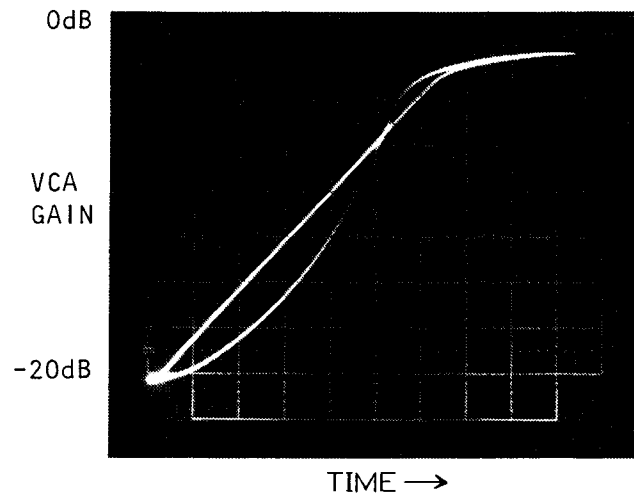

Fig. D-3: LIN and EXP Release Shapes
- d) Switch the RELEASE SHAPE switch to EXP. Restore the oscillator and verify that the G/R meter once again reads "20dB". Suppress the oscillator and superimpose the control voltage release shape upon the LIN shape measured in step (c) above. When superimposed, the two traces should look like Fig. D-3.